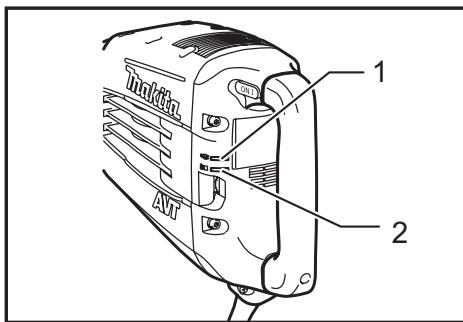

Fig.3
► Fig.3: 1. Power-ON indicator lamp (green)